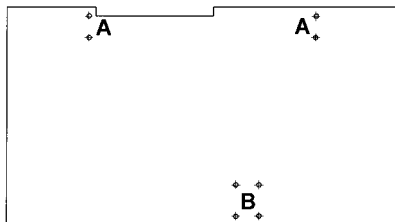

fig. 5 Work plate - Top View
- !** The mounting holes are pre-drilled (↓ see Fig. 5, A).
- Fix vise on workbench plate (↑ see Fig. 5, B) using the hexagon head cap screws supplied.
! The mounting holes are pre-drilled (↑ see Fig. 5, A).